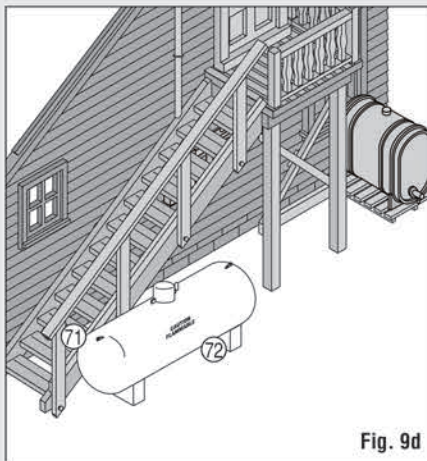

Fig. 9d
- Glue Propane Tank (71) to (72), then glue to Stair Assembly (Fig. 9d).